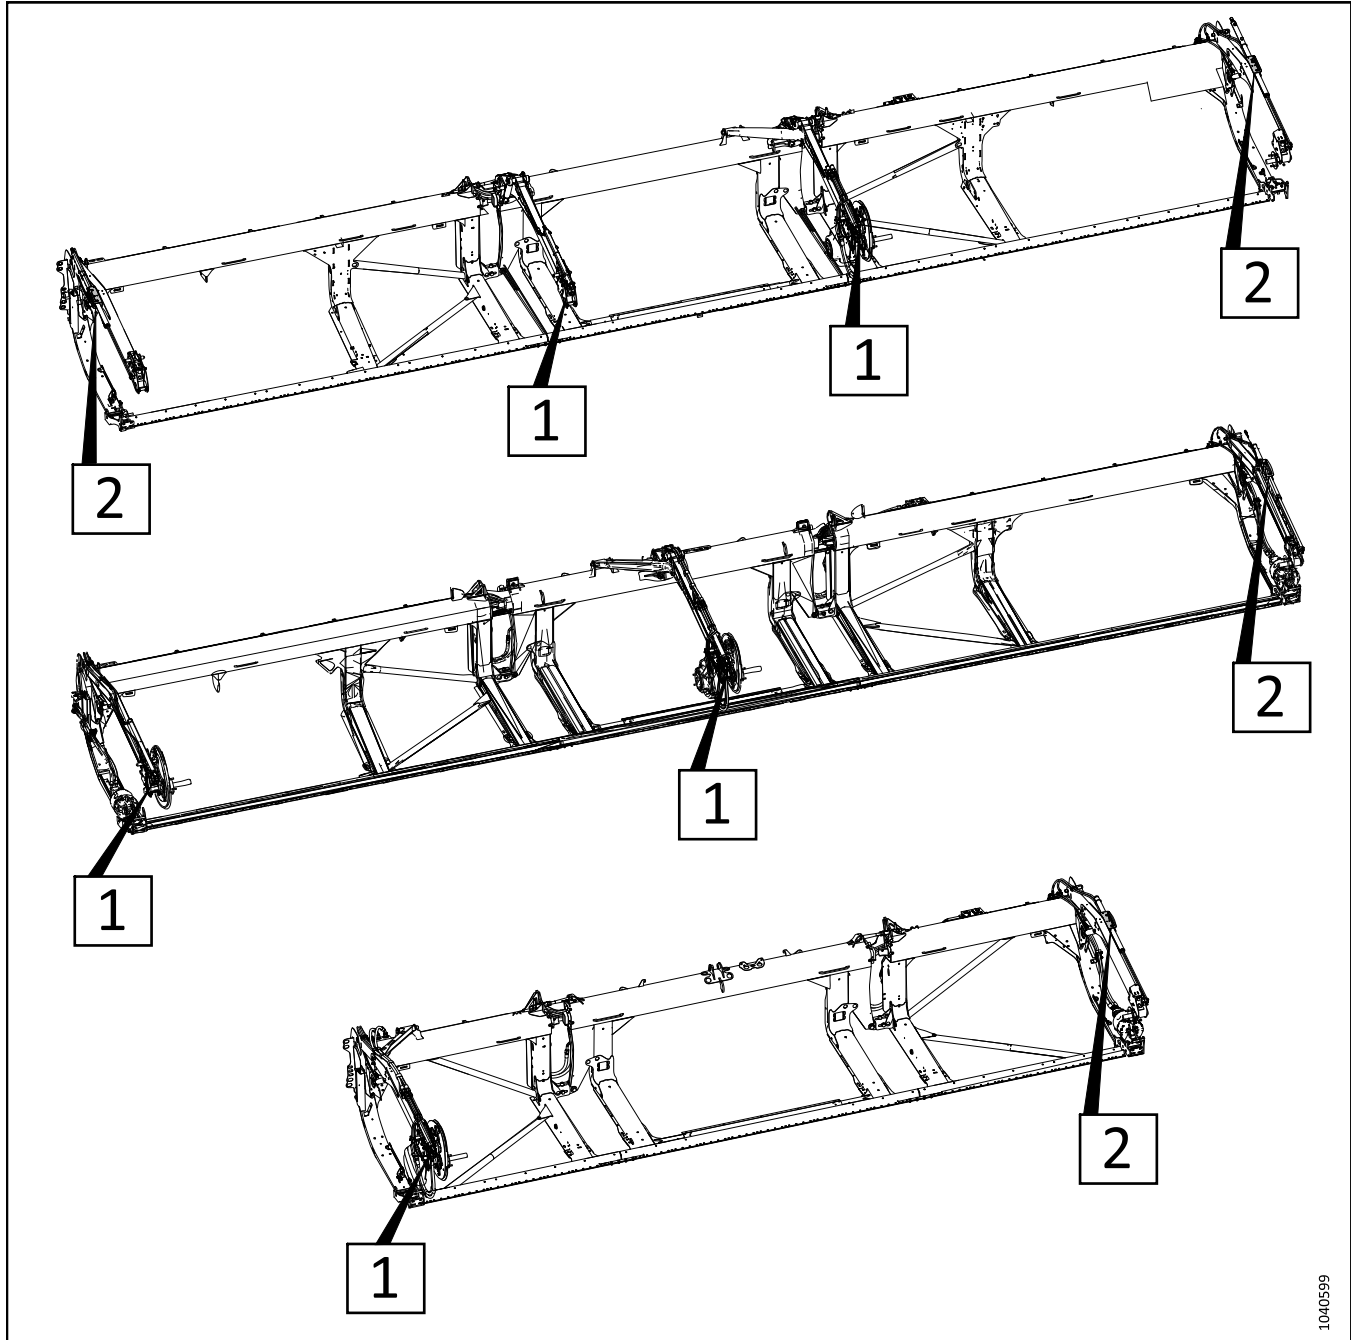

Figure 3.376: Adjustable Fore-Aft Cylinders – Procedure Reference Numbers
5. Refer to Figure 3.376, page 255 to determine the fore-aft cylinder adjustment procedures for your header type. The number on the illustration refers to one of the following procedures: